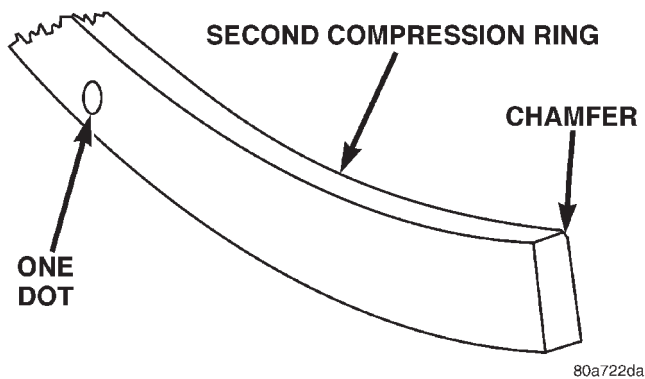
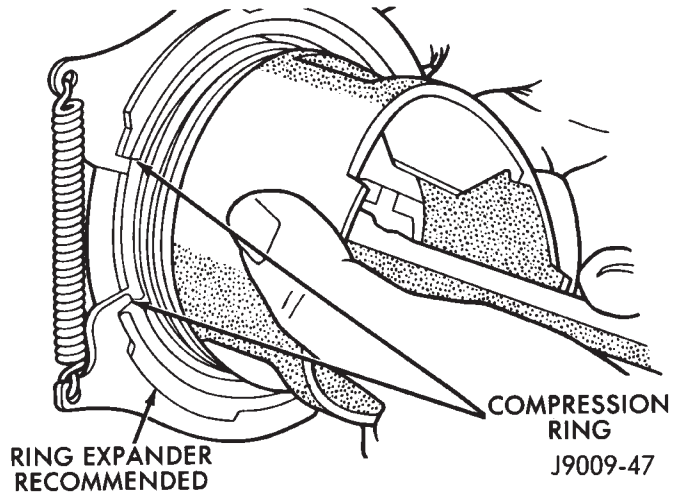

Fig. 9 Second Compression Ring Identification
Fig. 11 Compression Ring Installation
(7) The second compression ring has a slight chamfer on the bottom of the inside edge and a dot on the top for correct installation (Fig. 9).
(8) Using a ring installer, install the second compression ring with the dot facing up (Fig. 9) (Fig. 11).
(9) Using a ring installer, install the top compression ring (either side up).